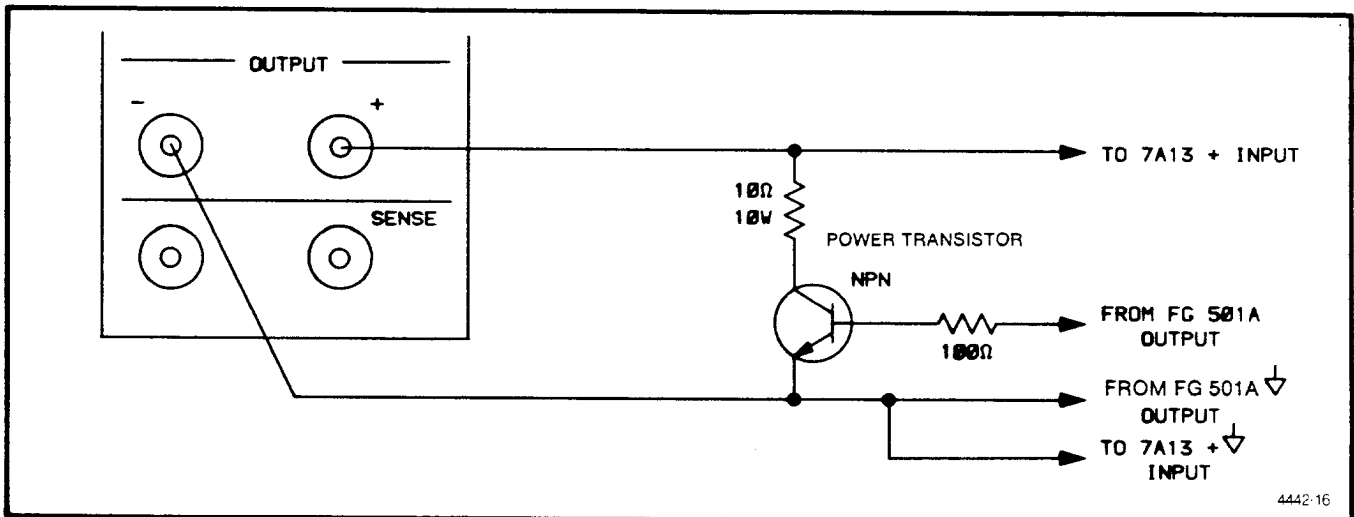

Fig. 5-2. Calibration fixture (active).
- b. Construct and connect the dynamic load test circuit as shown in Fig. 5-2.